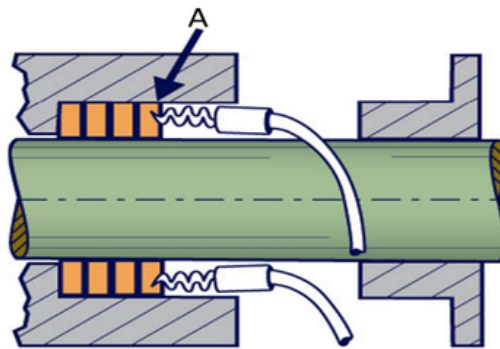

Figure 33. Packing Removal
2.) **REMOVE ALL OLD PACKING FROM THE STUFFING BOX** (see Figure 33). Packing extractors and water jets are suitable tools for removing packing without damaging the stuffing box. Clean the box and stem thoroughly and examine the stem for wear and scoring. Replace the stem if wear is excessive. Make certain that the stem is concentric to the bore of the stuffing box.